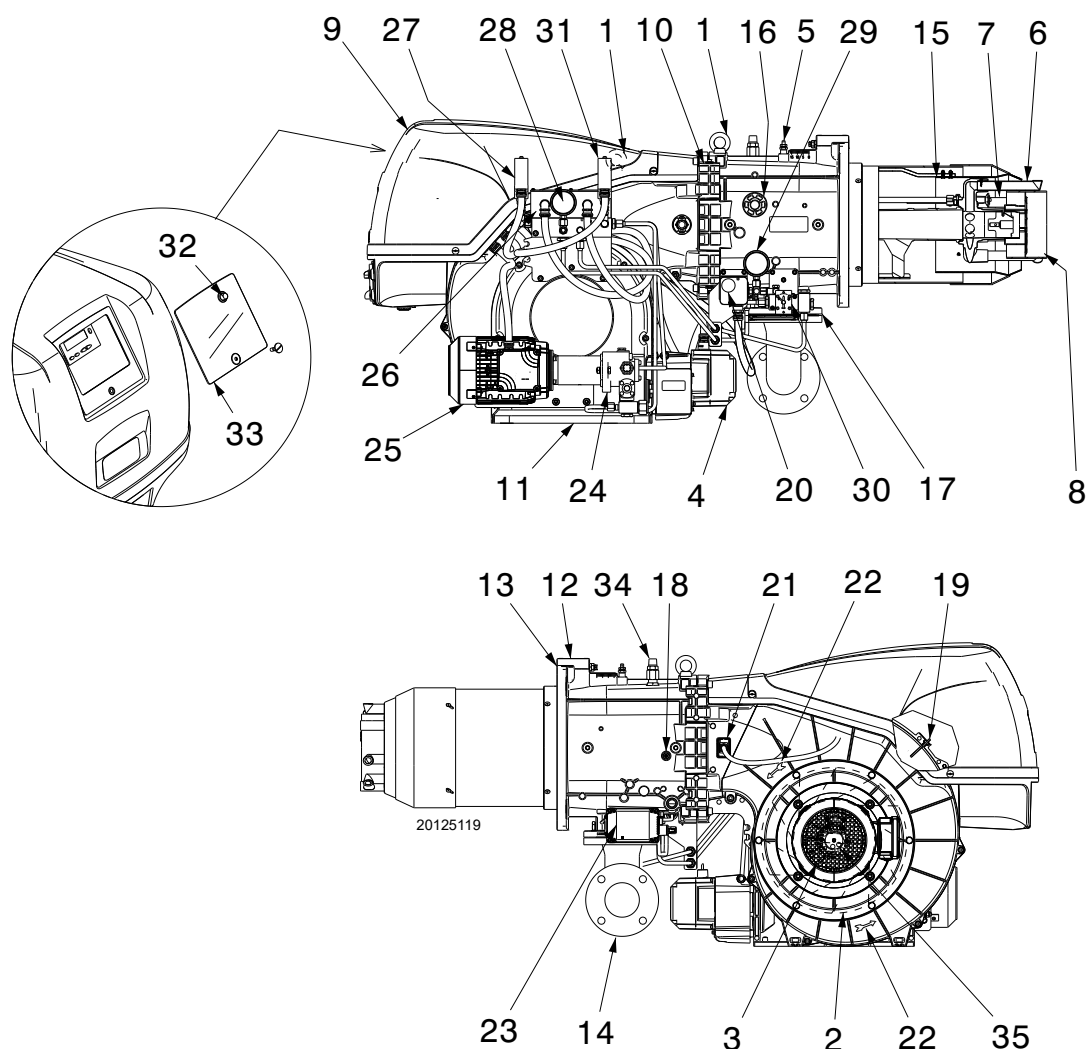

Fig. 3
(1) Reference conditions: ambient temperature 68 °F (20°C) - Barometric pressure 394" WC - Altitude 329 ft.
(2) Pressure at test point 5)(Fig. 3 on page 11) with zero pressure in the combustion chamber and maximum burner output.
(3) Sound pressure measured in manufacturer's combustion laboratory, with burner operating on test boiler and at maximum rated output. The sound power is measured with the "Free Field" method, as per EN 15036, and according to an accurate "Accuracy: Category 3", as described by EN ISO 3746".
(4) Equivalent Btu values based on 1 USGPH = 140,000 Btu/hr.